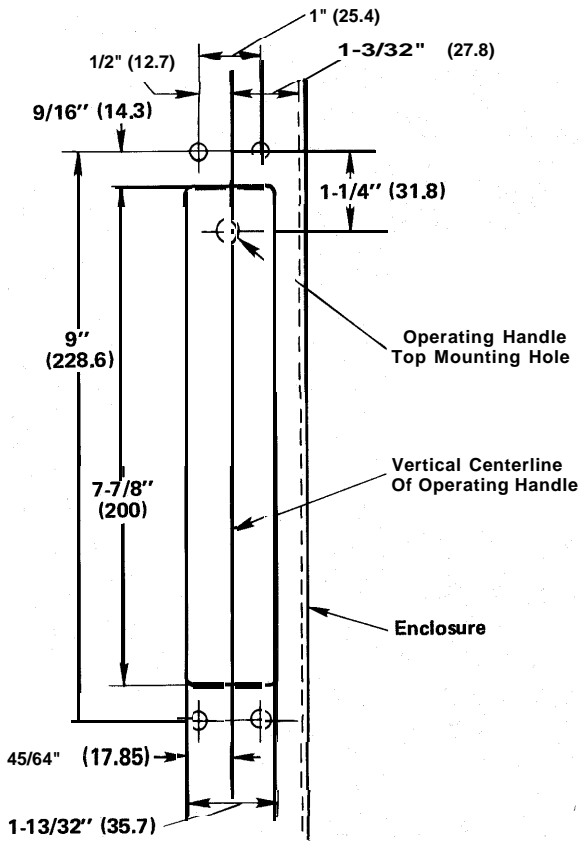

Figure 1
2. Provide the flange slot and holes as shown in Figure 1. **NOTE:** The flangedimension from the operating handle centerline to the enclosure wall increases to 1-3/32" (27.8) minimum.